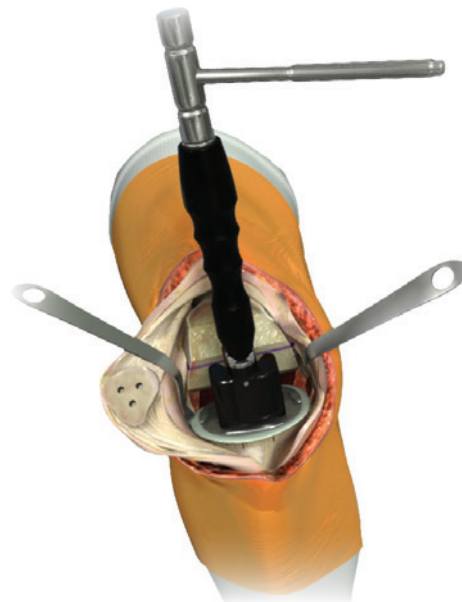

Figure 26a
3. Use the Tibial Implant Impactor on the Modular Handle and Mallet to fully seat the Tibial Baseplate Component onto the proximal tibia. Remove excess cement (Figure 26a).